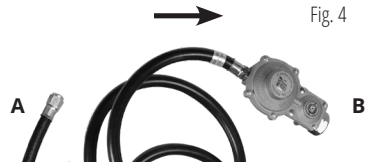

Fig. 4
3. Connect the LPG hose to the LPG input on the generator control panel (connect end **A** of a hose to the LPG input on the generator control panel, as shown in Fig. 4).
4. Connect the hose end with the reducer to the gas cylinder (connect end **B** of hose to the gas cylinder, as shown in Fig. 4).